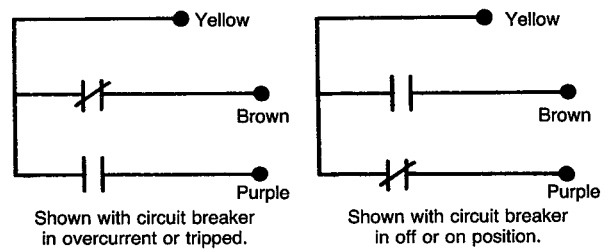

Figure 8
8. Check bell alarm switch function by resetting circuit breaker, moving handle to "on" position. Use twist to trip button to test trip and bell alarm switch function. Switch changes state between the tripped position and the "on" or "off" position. Check continuity in both states for correct operation. (See Fig. 8.)